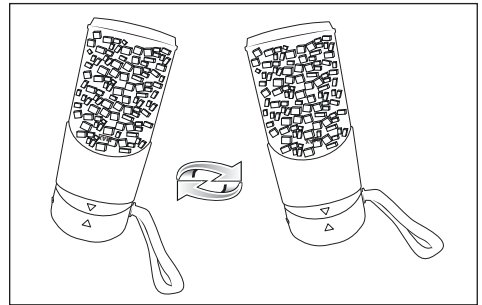

Fig. 1
- 4) Turn the appliance around so that the lid **1** faces down. To distribute the ingredients better, you can move the appliance while it chops the food. Hold the appliance firmly in your hand and swirl it back and forth (see Fig. 1). Make sure that the lid **1** does not come free from the blender jug **6**.